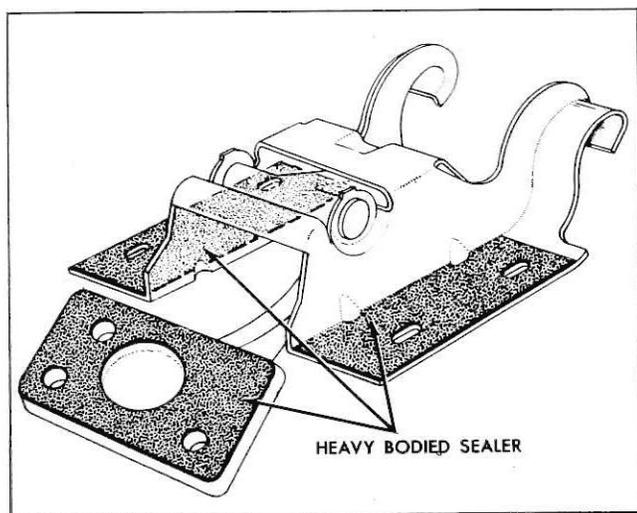

Fig. 3—Back Door Hinge Anti-Squeak
3. To install back door assembly, first, as an anti-squeak precaution, apply a coat of heavy-bodied sealer to attaching surfaces of both hinges (see Fig. 3); then, reverse removal procedure. Align back door with previously made hinge marks.